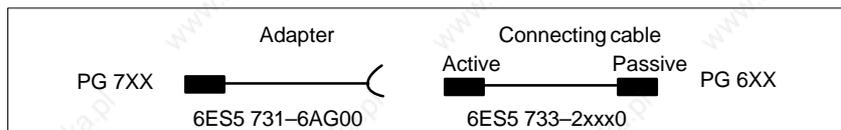

Figure 4-9 Direction of Connection: Adapter – Connecting Cable
1. When connecting the programming devices in series, make sure you connect the cable the right way around (see Figure 4-9).